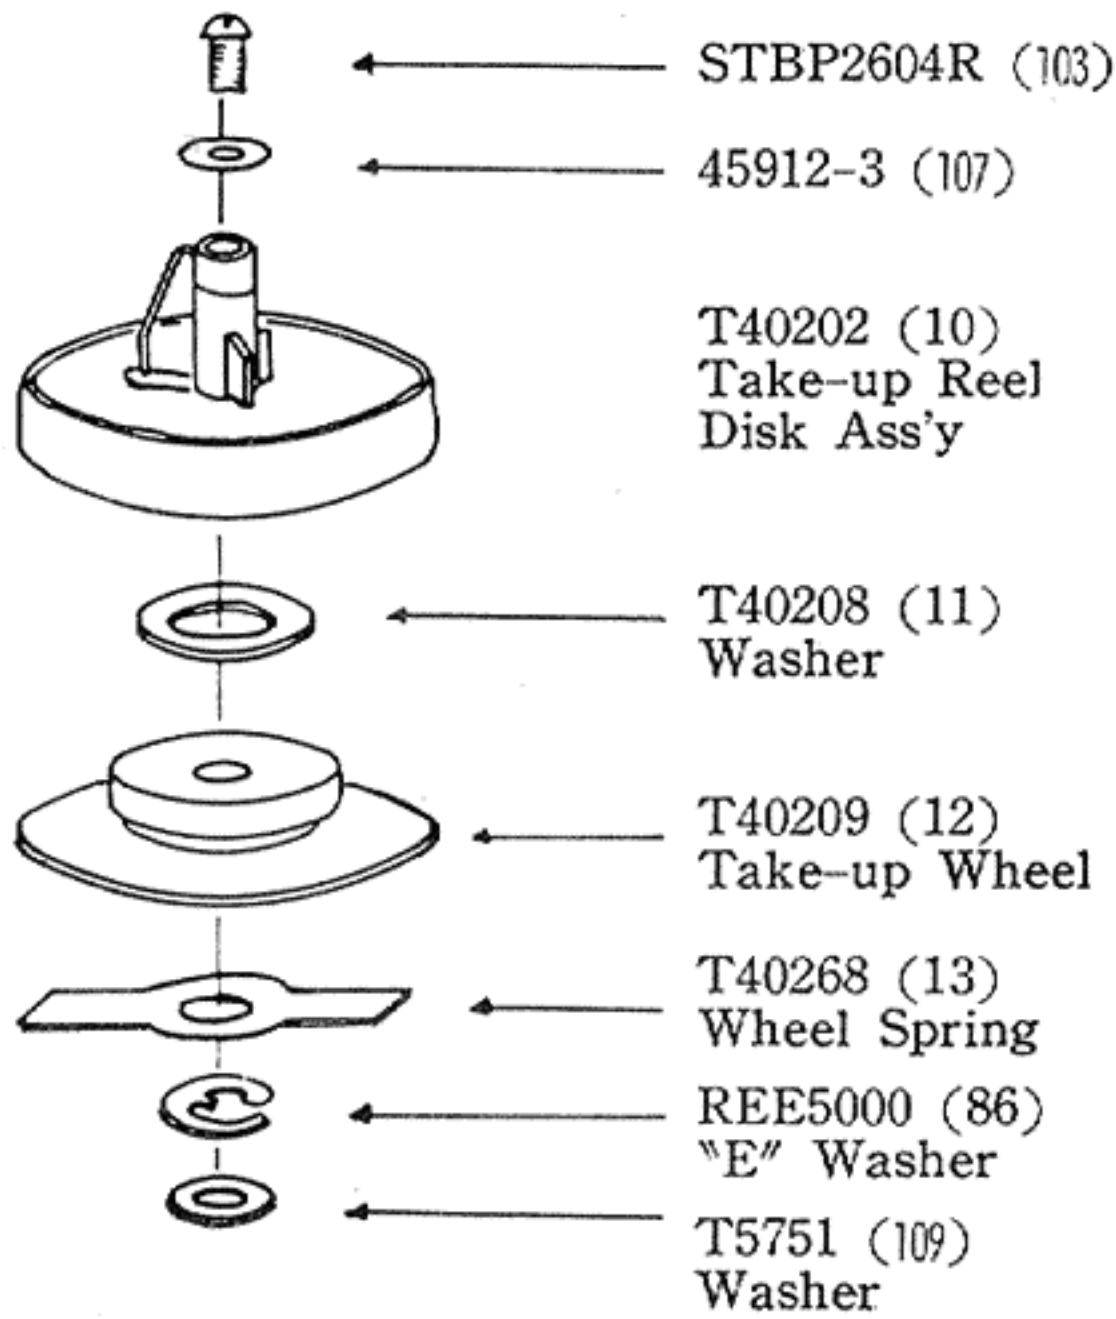

Fig. 4
5. Disassembling Procedure of Supply Reel Disk and Take-up Reel Disk. (Fig. 4 & 5)